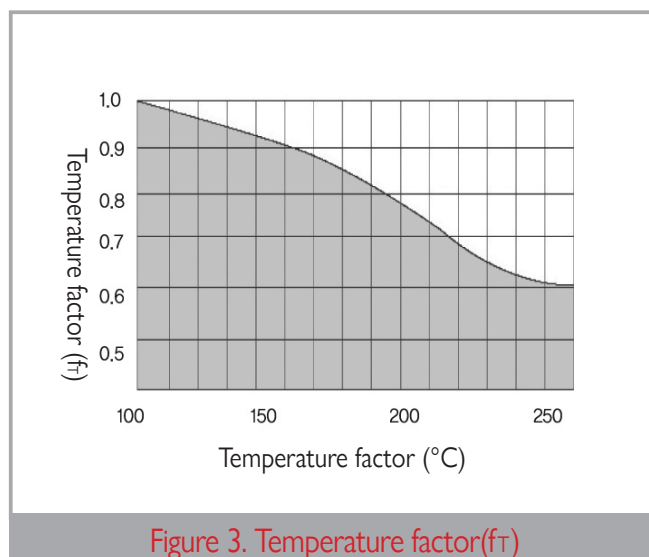

Figure 3. Temperature factor(f_T)
- f_T : Temperature factor (See Figure 3.)